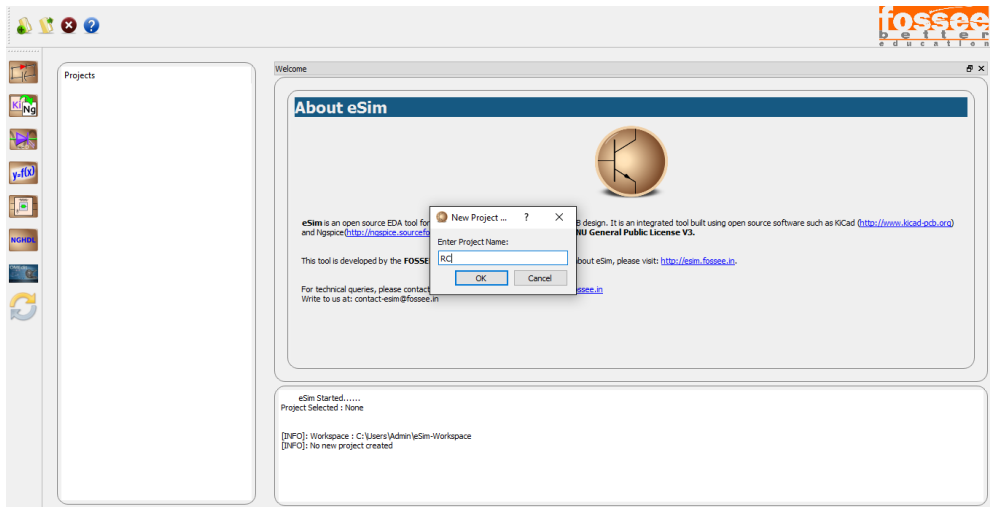

Figure 12.1: Creating New Project
- Creating a Project: The new project is created by clicking the **New** icon on the menubar. The name of the project is given in the pop up window as shown in Fig. 12.1.
The new project is created by clicking the **New** icon on the menubar. The name of the project is given in the window shown in Fig. 12.1.